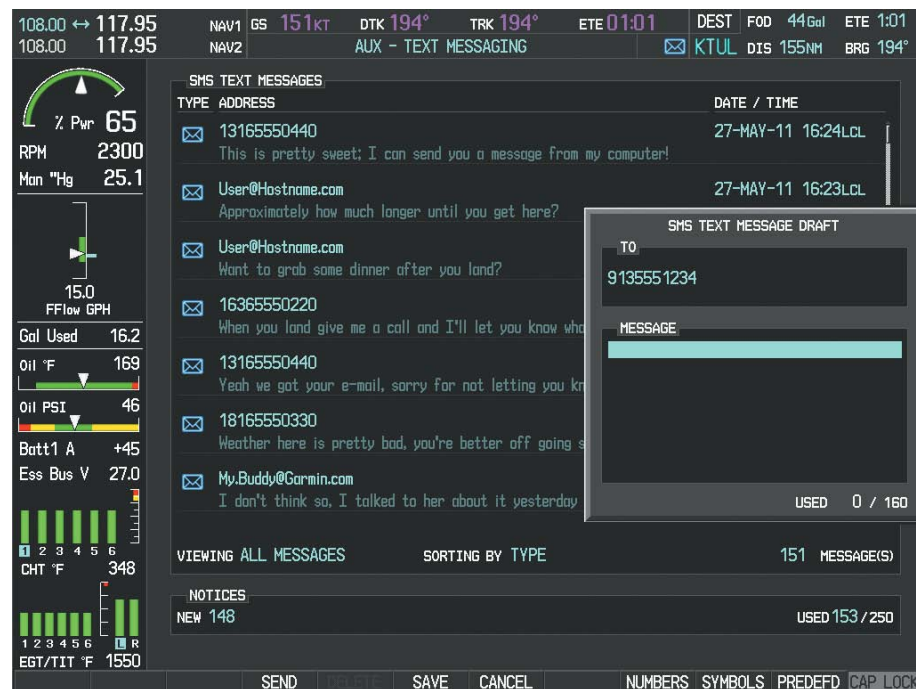

Figure 8-99 Sending a Predefined Text Message
- 3) Press the **ENT** Key. The cursor is now displayed in the 'MESSAGE' field (Figure 8-99).